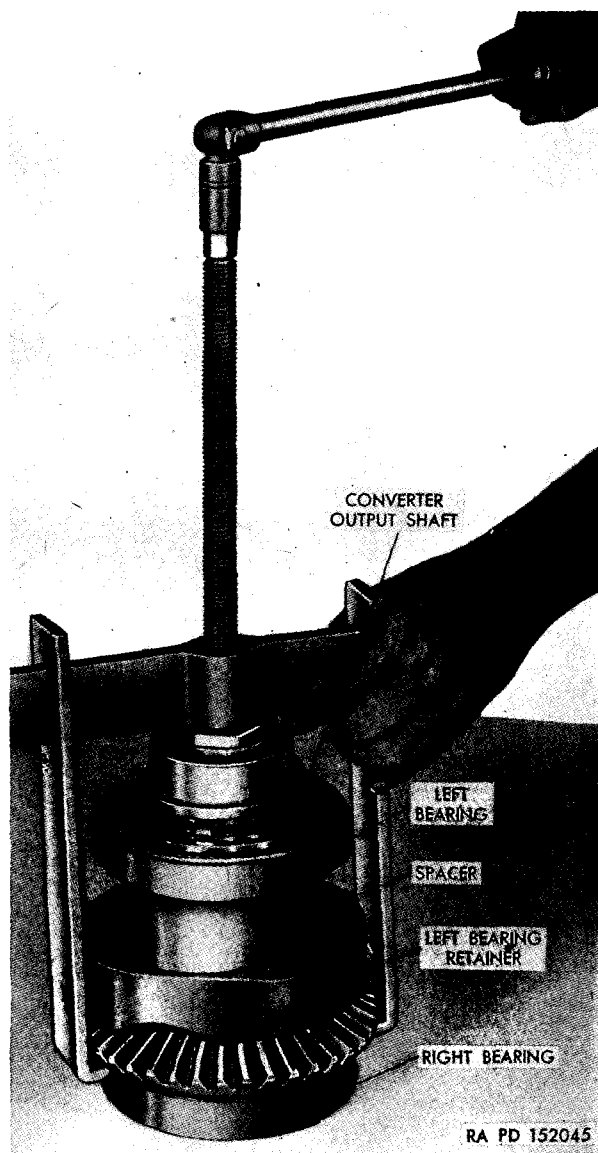

Figure 306. Removing converter driving bevel gear, spacer, retainer and left bearing.
- (2) Using a gear puller hooked under the bevel gear, remove the gear, spacer, retainer and left bearing (fig. 306). If it is necessary, press the shaft out of the